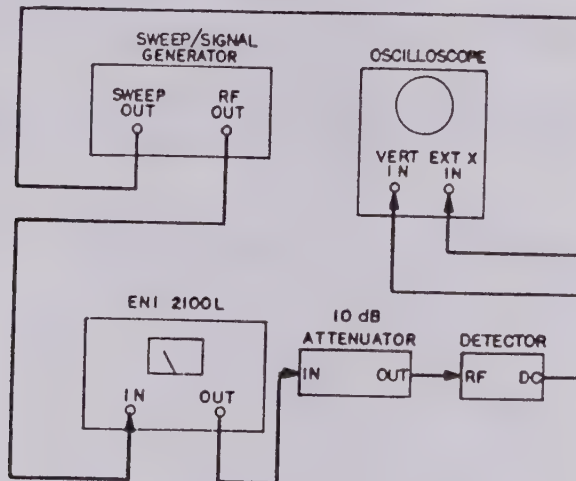

Figure 4-1. Gain Measurement
2. Connect the equipment as shown in Figure 4-1, then proceed as follows:
- g. Reconnect the 2100L into the test set-up of Figure 4-1.